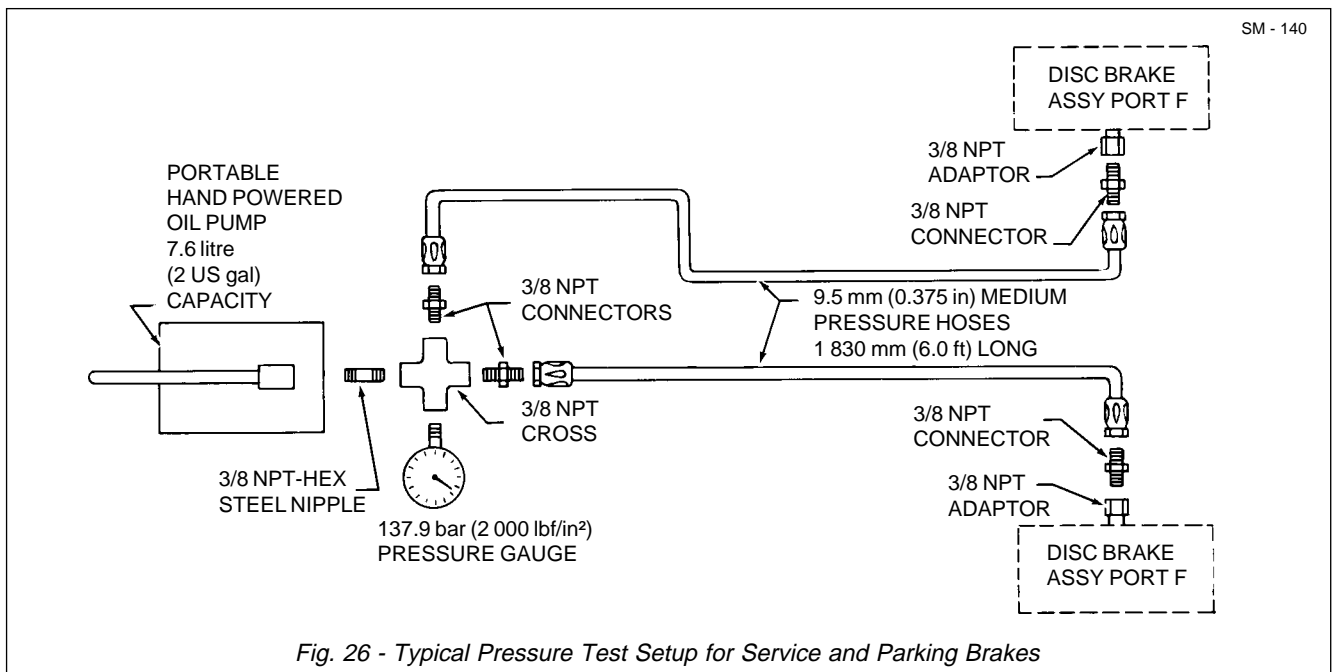

Fig. 26 - Typical Pressure Test Setup for Service and Parking Brakes
40. Refer to Fig. 26 for typical pressure test setup. Position brake assembly vertically with bleeder valves (50 & 54, Fig. 2) at the 12:00 o'clock position. Connect a portable hand pump filled with clean brake hydraulic oil to Port 'D', Fig. 2, and pressurize service brake piston